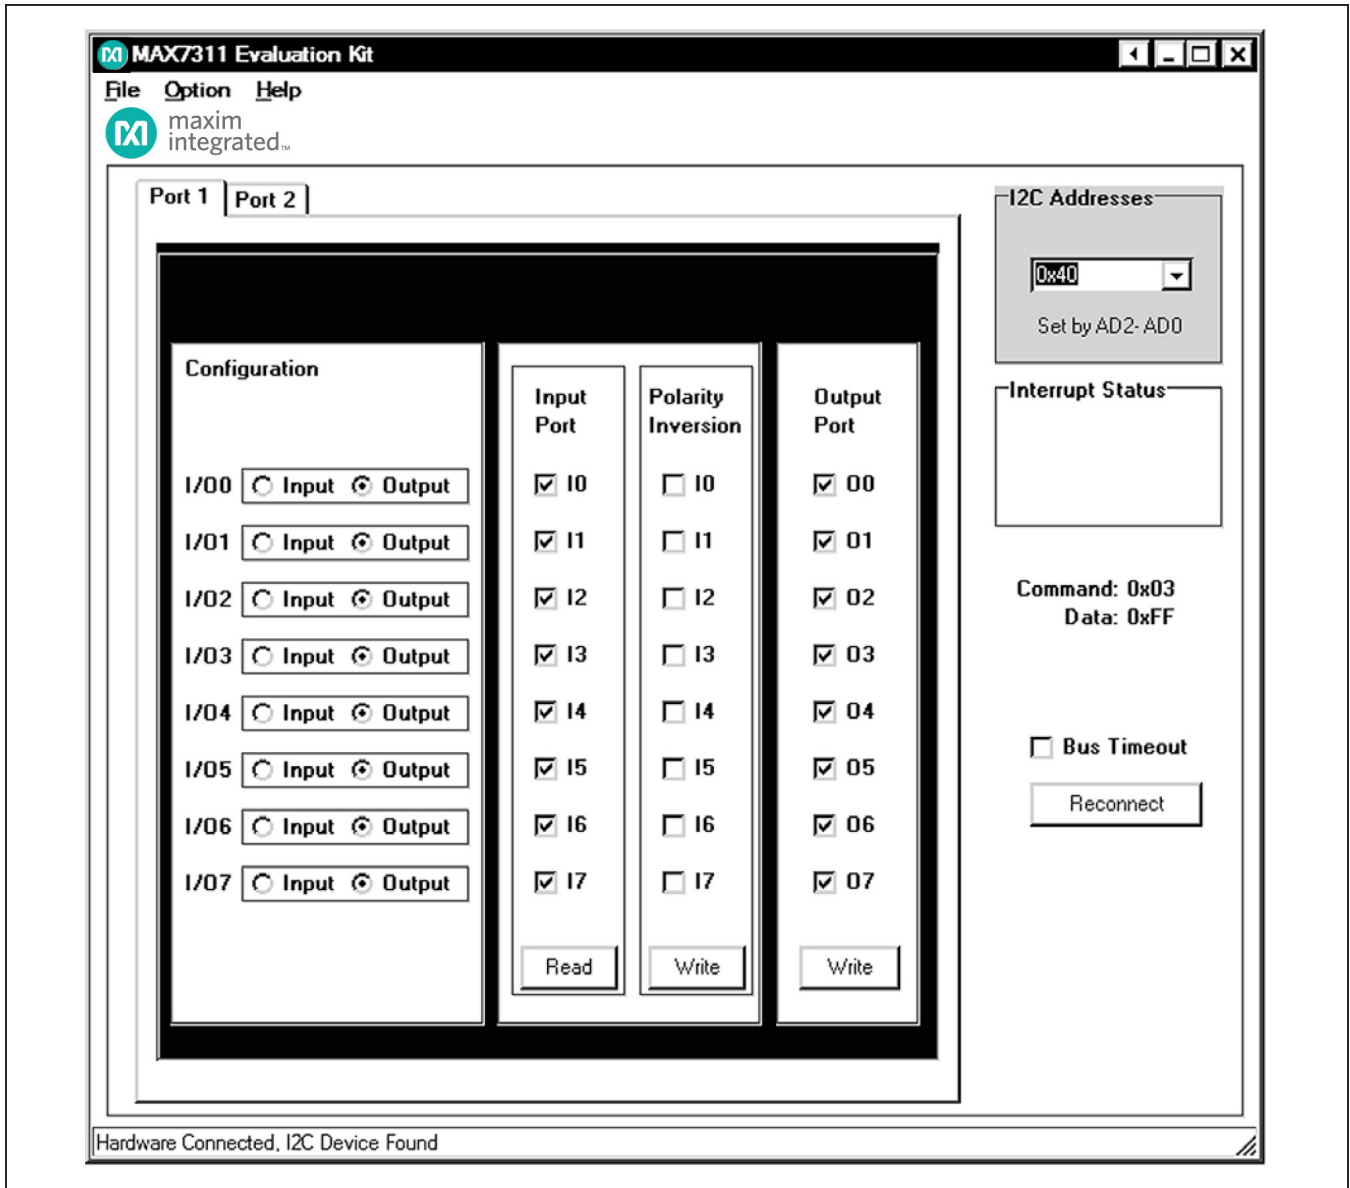

Figure 1. MAX7311 EV Kit Software Main Window (Port 1 Tab)
- 6) Start the MAX7311 EV kit software by opening its icon in the **Start | Programs** menu. The EV kit software main window appears, as shown in Figure 1.
To start the MAX7311 EV kit software, double-click on the MAX7311 EV kit icon that is created during installation. The GUI main window appears, as shown in Figure 1.
The **Port 1** tab sheet shown in Figure 1 controls all of the registers for I/O0–I/O7 of the MAX7311. In the **Configuration** group box, the user can set the I/O port